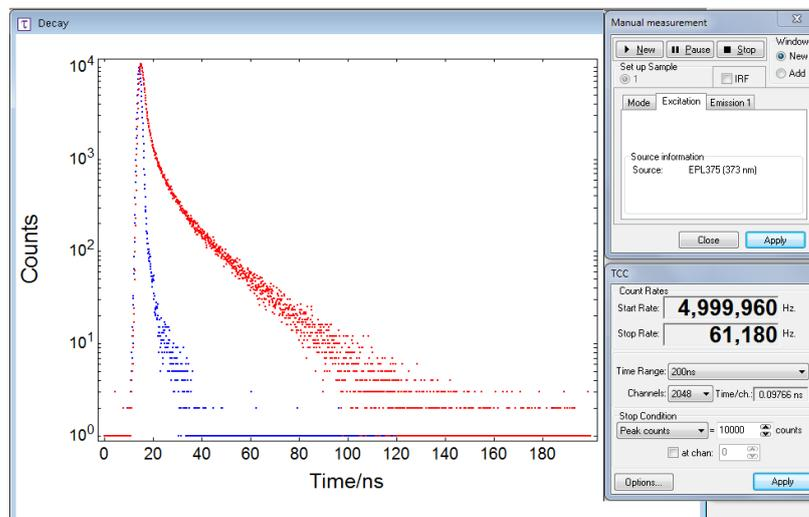

Figure 6-8: Dialogue box for a Manual Time-Resolved measurement by TCSPC
- 13-2 Open the option for manual lifetime measurements ( > **Manual**). Two dialogue boxes will appear on the right side of the Fluoracle main panel: the upper one provides an extract of **Signal Rate** options and will be required to start and stop measurements and the lower one is specific for the lifetime settings in TCSPC mode (refer to Figure 6-8).